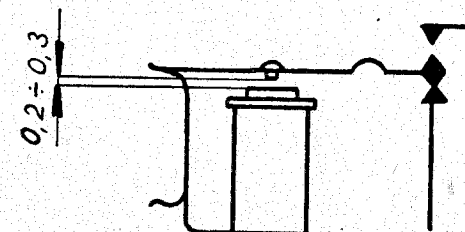

Fig. 78.
1. With a lightly made bottom and center contact, the gap between the core and the contact rivet should be 0.2 to 0.3 mm (Fig. 78).